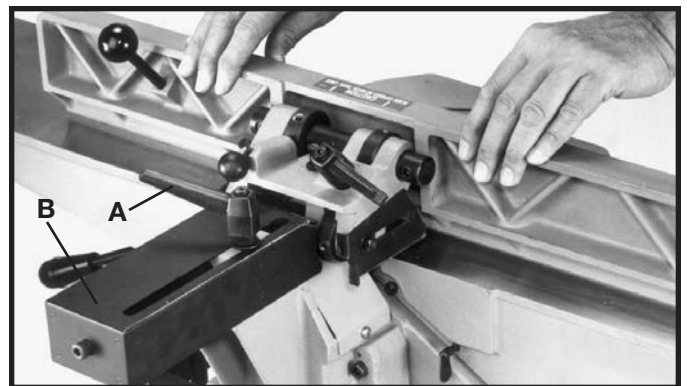
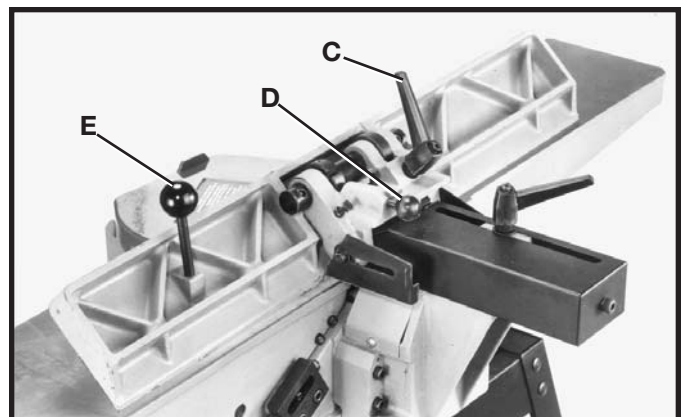

Fig. 48
Fig. 49
1. To move the fence across the table, loosen lock handle (A) Fig. 48, slide fence to the desired position on the table and tighten lock handle (A). As the fence is moved across the table, the rear cutterhead guard (B) covers and guards the cutterhead in back of the fence.
**NOTE:** Lock handle (A) is spring-loaded and can be repositioned by pulling up on the handle and repositioning it on the serrated nut located underneath the hub of the handle.
2. To tilt the fence to the right or left loosen lock handle (C) Fig. 49, and pull out and turn plunger (D) to release the positive stop. A tilting lever (E) is provided on the back of the fence to assist in tilting the fence. **NOTE:** Lock handle (C) is spring-loaded and can be repositioned by pulling out the handle and repositioning it on the serrated nut located underneath the hub of the handle.
3. Tilt the fence to the desired angle, in or out, and tighten lock handle (C) Fig. 49. **IMPORTANT:** When cutting bevels and the angle is small there is little difference whether the fence is tilted in or out; however, at angles approaching 45 degrees it may become difficult to hold the work securely against the fence when the fence is tilted out. In these cases we suggest that the fence be tilted toward the table, as shown in Fig. 49. The fence will form a V-shape with the tables and the work is easily pressed into the pocket while passing across the knives.